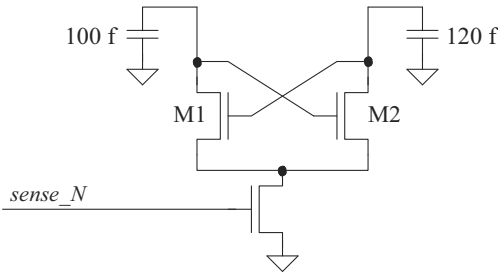

Figure 16.69 Problem 16.2 showing how a mismatch in the load capacitance of an NSA can result in sensing errors.
- 16.2 Consider the NSA seen in Fig. 16.69. Suppose that the load capacitance is mismatched by 20%, as seen in the figure. Assuming that both caps are equilibrated to 0.5 V prior to sensing, which capacitor will fully discharge to ground (which MOSFET will fully turn on)? What voltage difference on the capacitors is needed to cause metastability? Verify your answers with SPICE.